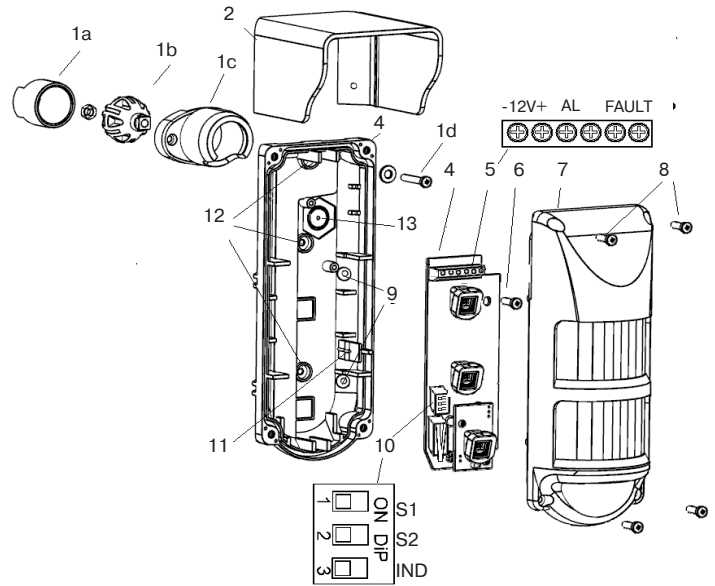

Figure 1 - The Detector Layout
5.1 The Detector (Figure 1) consists of base (3), PCB (4) and cover (7). Swivel bracket (1) and weather shield (2) are available. The cover is fixed to the base by four screws (8) with a sealing gasket. The PCB is fixed on the base by means of latch (11) and screw (6). Before mounting the detector the cover and the PCB should be separated from the base.
7.1 After assembling and installation, set switches «S1», «S2», «IND» (Figure 1, pos. 10) to «ON» position, replace the cover and perform test activation of the detector.
Sensitivity of the detector is selected by block of DIP-switches «S1» - «S2» (10) (see Figure 1).